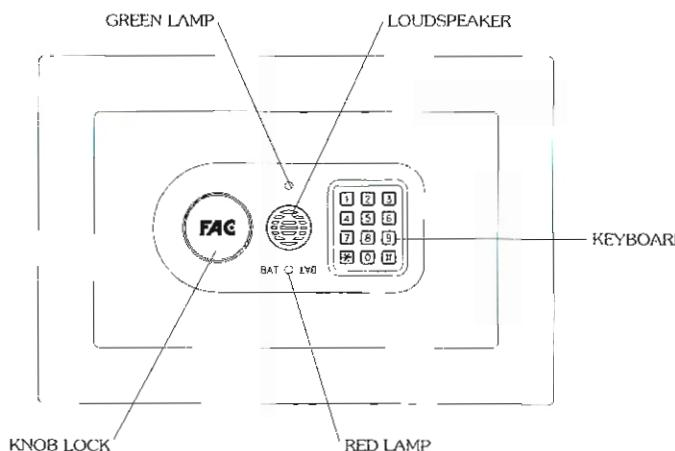

FIG. 2
1. Press the «on» key « \* ». The sound inviting you to type in a code number will be heard, and the green luminous indicator will light up without blinking (see fig. 2).
2. Before 8 seconds have lapsed, press the code number change button inside the door (see fig. 2). The «Where are the keys» melody will be heard, followed by the sound inviting you to type in a code number.